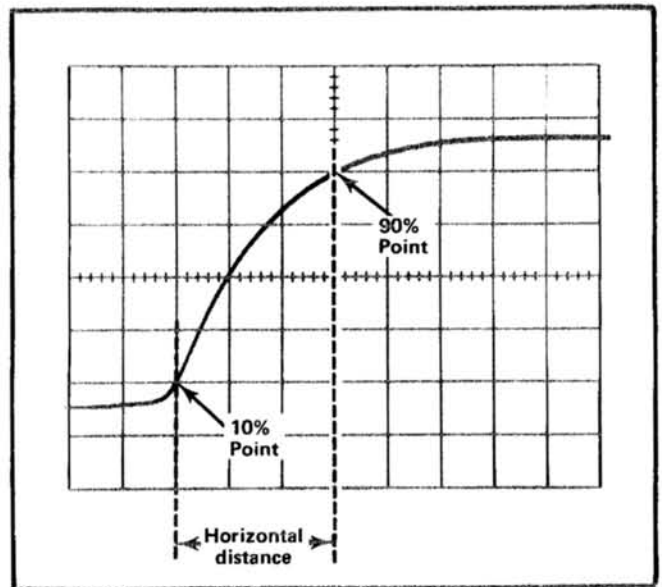

Fig. 2-11. Measuring risetime.
8. Adjust the horizontal POSITION control to move the 10% point of the waveform to the first vertical line of the graticule. For example, with a five-division display as shown in Fig. 2-11, the 10% point is 0.5 division up from the start of the rising portion.
Example. Assume that the horizontal distance between the 10% and 90% points is four divisions (see Fig. 2-11) and the TIME/DIV switch is set to 1 μ s with the MAG switch set to X10. Applying the time duration formula to risetime: